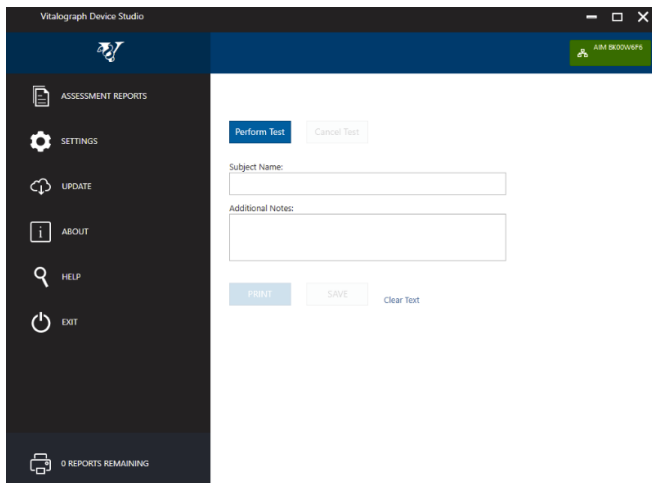

Figure 6: Device Studio initial screen when connected to AIM
3. Set up the device to conduct a test as described in section 5.1. Before the test is performed, the user must select the 'Perform Test' button (figure 6).